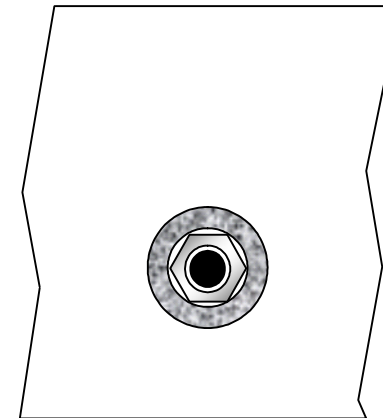

Figure 5-19
- Locate the 1" (25 mm) dia. by 1/16" (1.6 mm) thick felt washer, and place it over the encoder nut (Figure 5-19). The washer should be seated on the front panel, with the nut inside it.